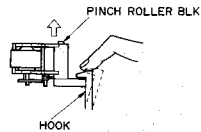

Fig. 3-2
- 1) Pull out the PINCH ROLLER BLK while releasing the HOOK as shown Fig. 3-2.